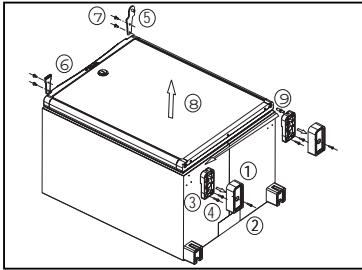

Figure 7.
9. Reversing the door hang (Fig. 7.)
- Insert the upper hinge (attached the miniBar) and the covering plate in the slot on the opposite side and secure with four screws (7).
- Mount the fixing feet (3) with hinge bolts (9) placed into the opposite side of the feet
- Mount the two foot-extension pieces (1)
10. Replacing the decorative door panel (Fig. 7., 8.)